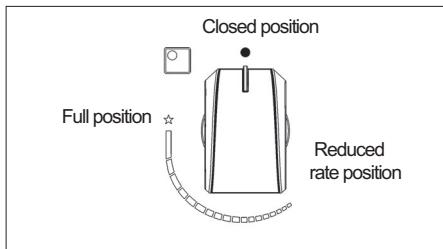

FIG. 1
Push and turn the knob corresponding to the required burner in an anticlockwise direction until it reaches the full on position (large flame fig. 1), then depress the knob.
The knobs of burners equipped with flame failure device must be turned in an anticlockwise direction until they reach the full on position (large flame fig. 1) and come to a stop. Now depress the knob in question and repeat the previously indicated operations.
- When the pan comes to the boil, set the knob to the reduced rate position (small flame fig. 1).
- **burners with flame failure device may only be ignited when the relative knob has been set to the Full on position (fig. 1).**